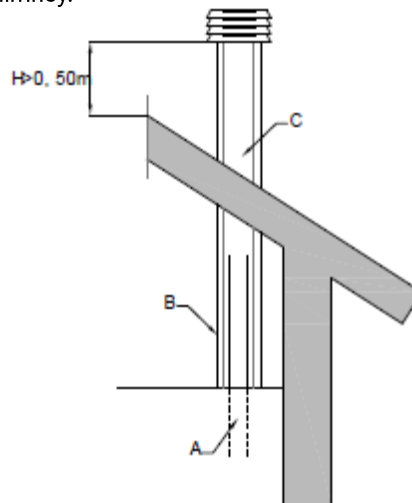

Figure 2.6: Example connection to the chimney
In case the exhaust pipes have larger diameter, a steel pipe (A) must be inserted in the brick or concrete chimney (C), as depicted in Figure 2.6.
- ⓘ The steel pipe must be insulated by adequate material resistant to heat, such as stone wool or vermiculite (B), and it must be separated from the outer part of the chimney.